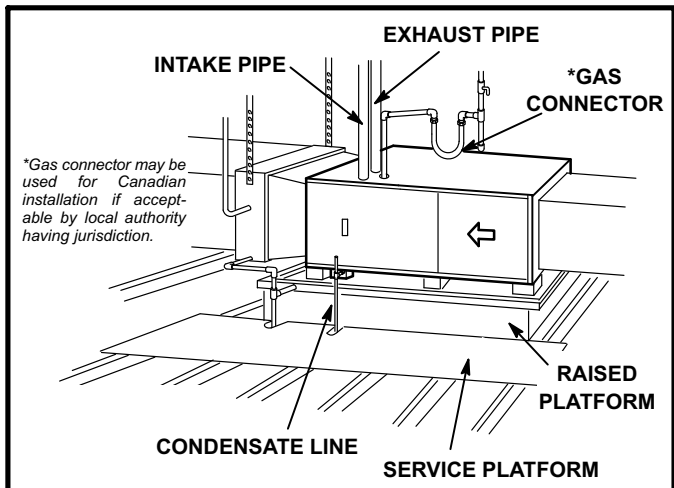

FIGURE 15
- 4 - Set unit in drain pan as shown in figure 15. Leave 5-1/2 inches for service clearance below unit for condensate trap.
The G71MPP may also be installed as a unit heater. Either suspend the furnace from roof rafters or floor joists, as shown in figure 14, or install the furnace on a field-fabricated raised platform, as shown in figure 15. The unit must be supported at both ends and beneath the blower deck to prevent sagging. The condensate trap must be installed where it can be serviced at a later date.